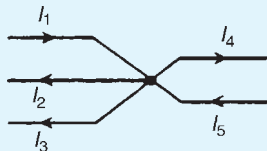

Figure 13.88
- Which of the following statements is true: For the junction in the network shown in Fig. 13.88: